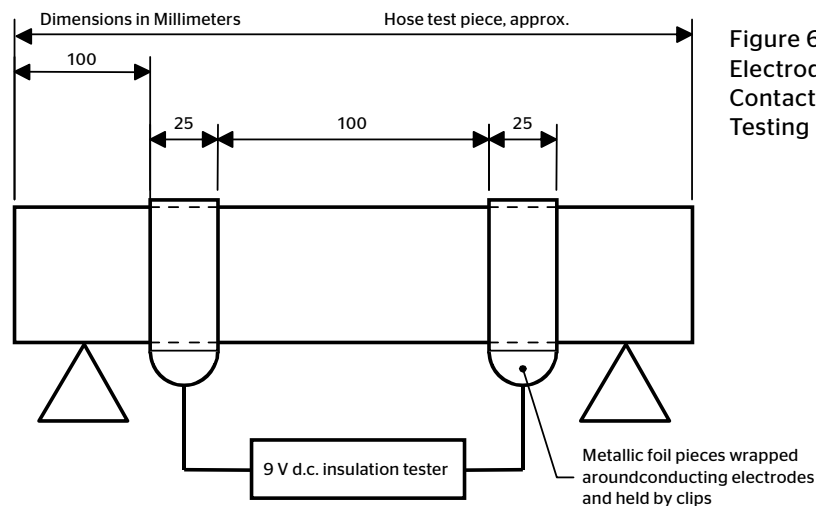

Figure 6-1
4.2 Electrodes and Contacts – When the test procedure calls for contact with the hose cover, electrodes should be formed around the outer circumference of the hose as bands 25 mm +2 mm, 0 mm (1"±1/16", 0") wide by applying silver lacquer/conductive liquid and metallic copper foil tape (i.e., 3M Scotch brand) as shown in Figure 6-1. When a conductive silver lacquer (i.e., Colloidal Silver Liquid is available from Ted Pella, Inc. catalog #16031) is used, the surface resistance between any two points on a sample of the dried film should not exceed 100 Ω. When a conductive liquid is used, the electrode contact area should be completely wetted and should remain so until the end of the test.
Apply the electrodes as specified to the outer circumference of the hose at each hose end (see Figure 6-1).
Ensure that contact is maintained with the electrodes around the circumference and that the contact pieces are sufficiently long enough for the two free ends to be held securely by a tensioning clip (see Figure 6-1) such that the fit of the electrodes is as tight as possible.